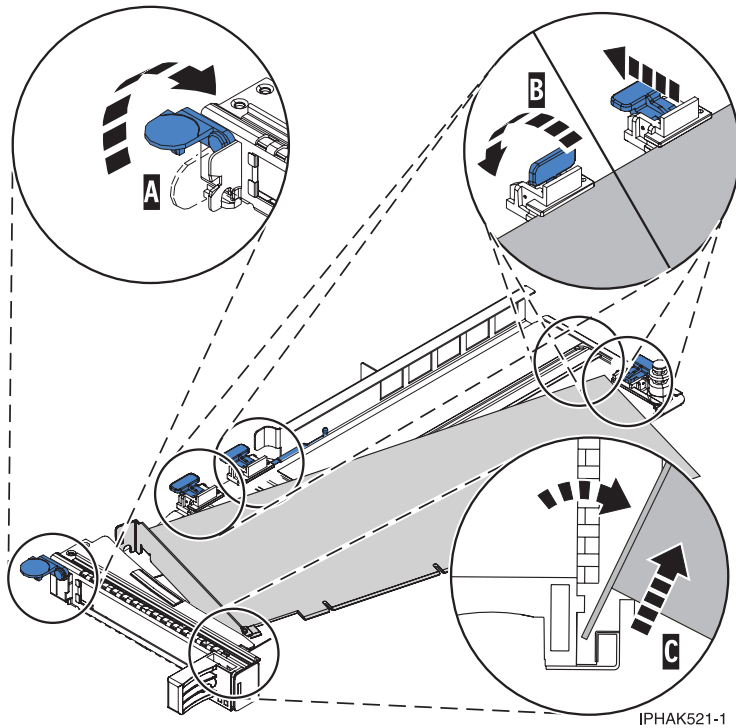

Figure 42. Adapter removed from the PCI adapter cassette
- a. Unlock the adapter retainers by rotating the retainer clip (A) into the horizontal position. See Figure 42 on page 48.